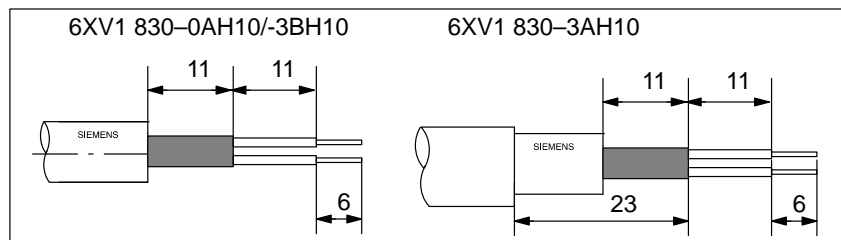

Figure 3-8 Length of stripped ends for connection to bus connector (6ES7 972-0B.11...)
1. Strip the ends of the cable conductors as shown in Fig. 3-8.